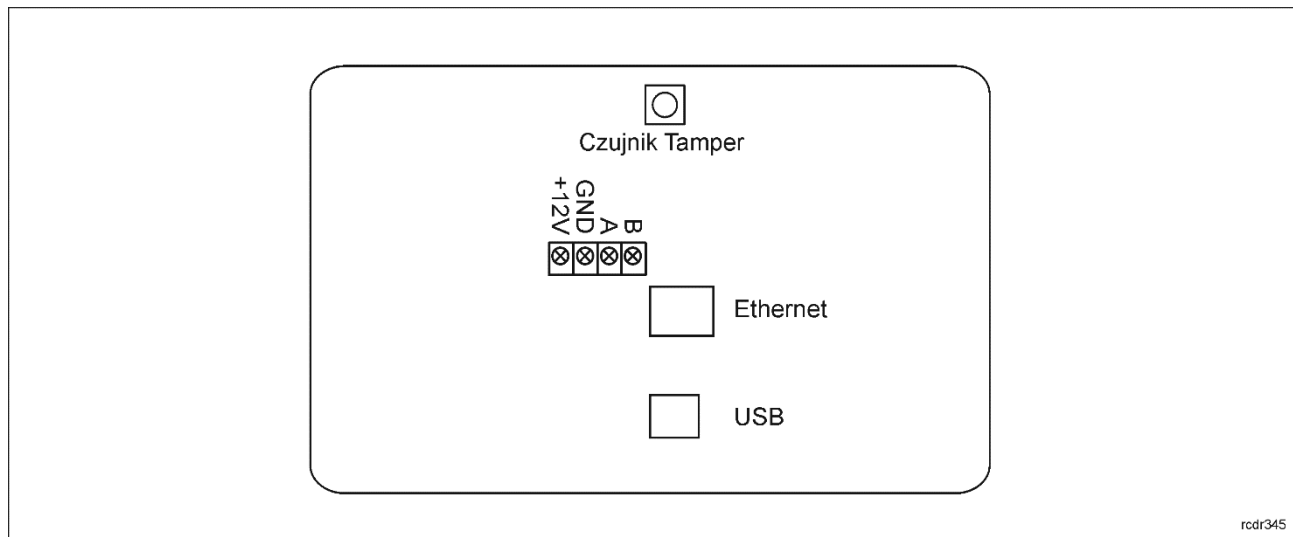

Fig. 3 The inside of the RCC512 panel
- The front panel of the device should be mounted so that the tamper sensor is pressed against the base of the terminal (fig. 3).
After selecting  the Report Center is displayed, shown in Fig. 8. After selecting the Events field, it is possible to view events (e.g. user login, key download, etc.) and after selecting  in the same window, also deleting and exporting events recorded by the cabinet controller. User Report allows you to view and export events related to the selected user. Events from the Report Center can be exported to a flash drive connected to the USB port of the controller (Fig. 3), to the internal memory or sent to the e-mail address defined in the Configuration window (Table 2). The available formats for exported data are Excel (XLS) and PDF.